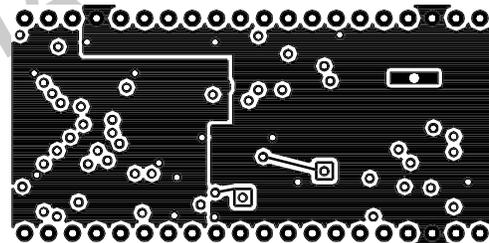

Figure 7. Ground Layer (Not to scale).
- The next layer is used for both digital and analog ground planes and shown in figure 7.